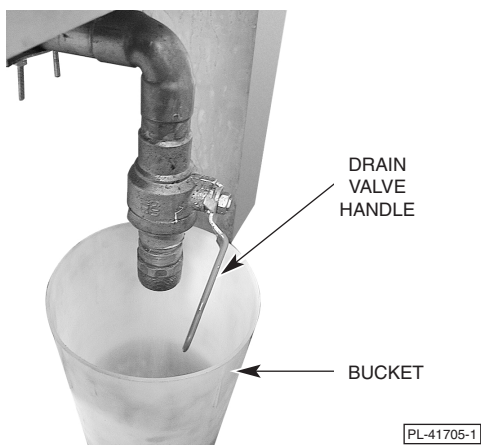

Fig. 32
- Place a bucket under drain connection (Fig. 32) unless connected to a drain and grease trap.